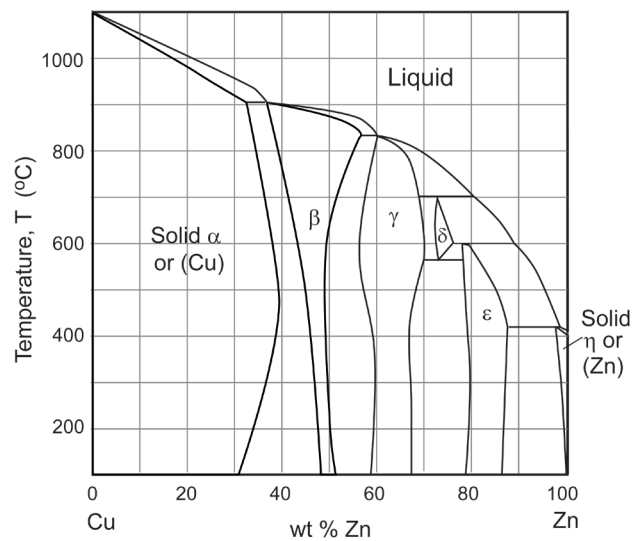

Figure 7: copper-zinc Cu-Zn phase diagram
13. The phase diagram for the copper-zinc system (which includes *brasses*) is shown in Figure 7. Use the diagram to answer the following questions.